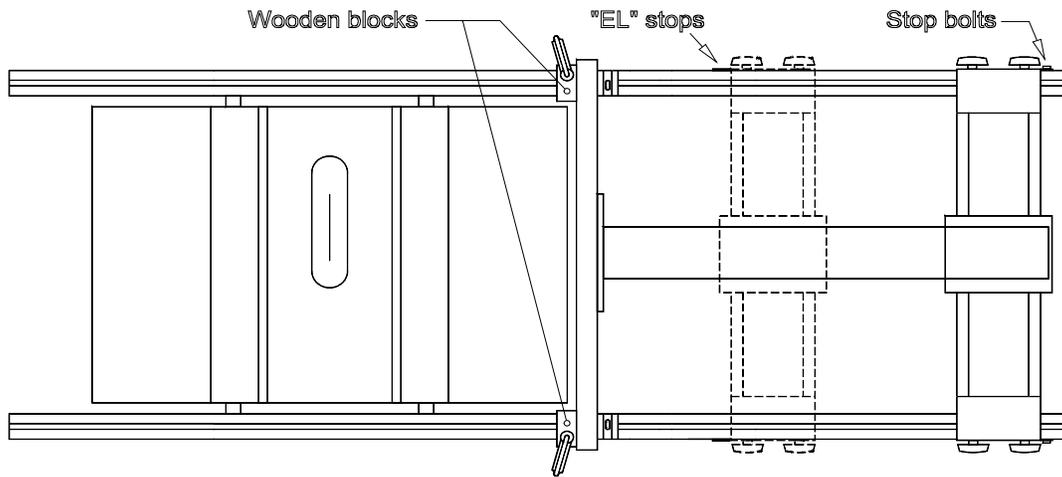

Fig. 2 – Base assembly positioned 20" to right
6. Unlock the carriage and slide the base assembly toward the end of the rails. Lock the carriage when the 0" mark on the scale shows under the cursor. This moves the base exactly 20" to the right from its original position. (Fig. 2)
7. With the fence still *gently* touching both wooden blocks and everything resting naturally on the rails, tighten the base clamping knobs and tighten a set of stop bolts against the *right* edges of the base clamps. (Fig. 2)